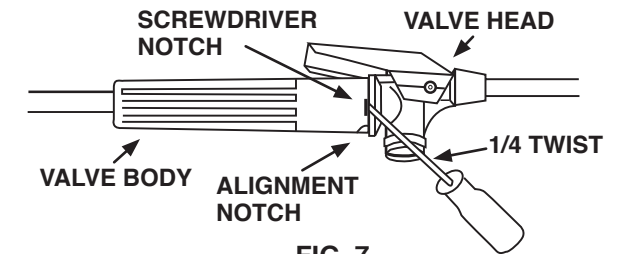

FIG. 7
- Insert small blade screwdriver into notch and twist 1/4 turn to separate valve body from valve head. (FIG. 7)
- (d) Align valve body with valve head and snap together tightly. (FIG. 7)